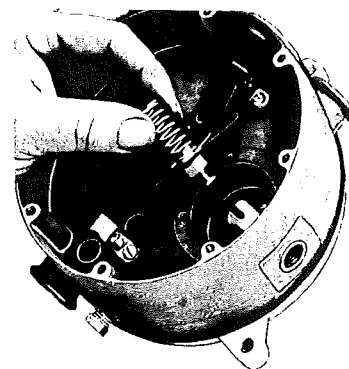
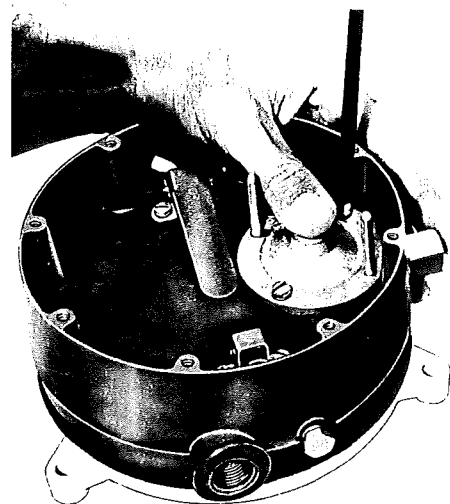

FIGURE 11
FIGURE 12
- b. Place completed diaphragm assembly in primary cavity and attach diaphragm link to primary lever. (Figure 11) Hold in position with four (4) aligning pins. (Figure 12) Install #1M-22 Spring over nut on diaphragm assembly and slide #5A-21 primary cover over aligning pins. Remove any one aligning pin, replacing it with a screw turned lightly down against cover. Remove the opposite aligning pin and turn screw down lightly against cover. Repeat this procedure with remaining two aligning pins. Tighten all four (4) screws alternately and evenly.